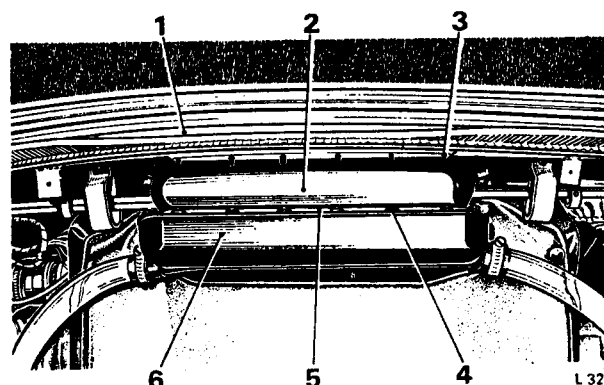

FIG. C43 FRESH AIR INTAKE AND TRANSFER DUCT
(see Fig. C43)**
The fresh air intake filter is situated below the intake grille in the rear decking panel (see Fig. C43); to remove the foam filter element proceed as follows.
(see Fig. C43)
4. Remove the ten 2 B.A. setscrews securing the lower clamp and the transfer duct to the rear cover (see Fig. C43); remove the transfer duct and clamp.